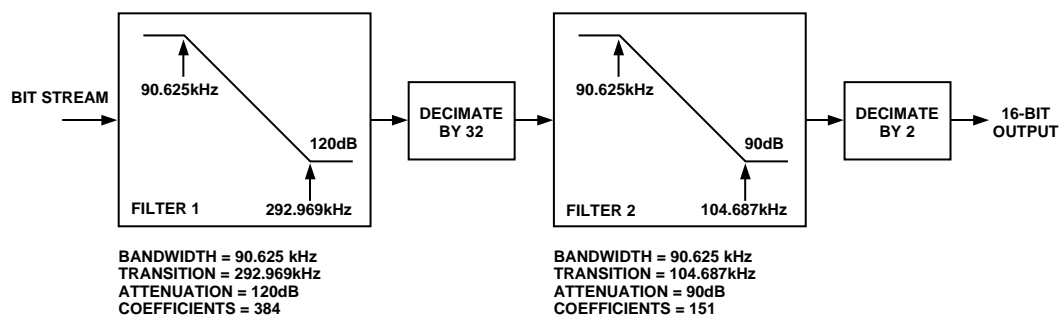

Figure 1. Digital Filter (Consists of 2 FIR Filters). This filter is implemented on the AD7722.
| Resolution                                  | 16                                       | Bits       | When Tested with Ideal FIR Filter as in Figure 1  |
| Signal to (Noise + Distortion) 5 | 90                                       | dB typ     | When Tested with Ideal FIR Filter as in Figure 1BIP = V IH , V CM = 2.5 V, VIN(+) = VIN(-) = 1.25 V p-por VIN(-) = 1.25 V, VIN(+) = 0 V to 2.5 VInput BW = 0 kHz–90.625 kHz |
| Overall Digital Filter Response             |  |            | See Figure 1 for Characteristics of FIR Filter  |
**TERMINOLOGY (IDEAL FIR FILTER USED WITH AD7720 [FIGURE 1])****Integral Nonlinearity**